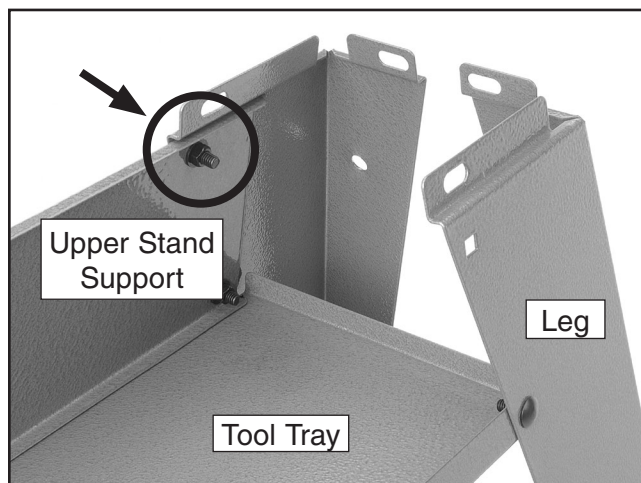

Figure 6. Upper stand support and tool tray.
2. Secure the upper stand support to the inside of the legs using the carriage bolts. Start by securing the upper carriage bolt highlighted in **Figure 6**.
3. Attach the tool tray to the legs as shown in **Figure 6**. One side of the tool tray will share the lower carriage bolt of the upper stand support.